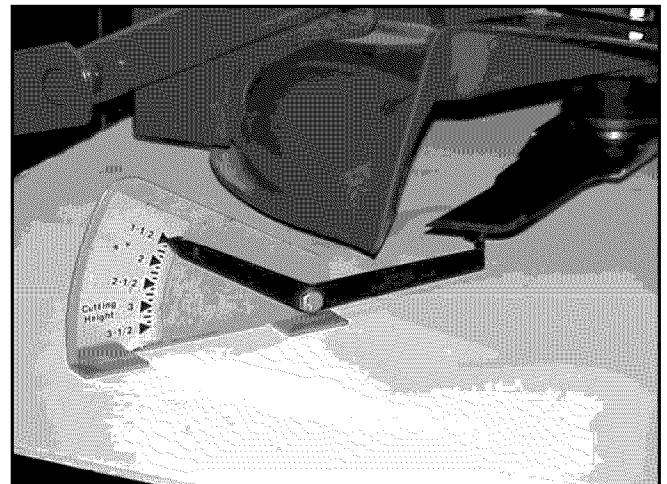

Figure 16
5. If you are using the measuring tool (Figure 16), position the blade tip. Then place the tip of the tool under the tip of the blade and press the base of the tool on the floor. Read the measurement and note it on your sketch. Repeat in all 4 positions.